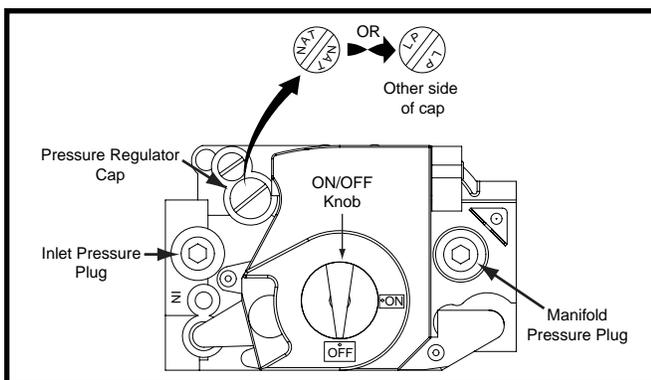

Figure 36. Gas Valve - Top View
This furnace can be converted from factory-equipped natural gas to Liquid Propane gas. Conversion of this valve requires replacement of the burner orifices on the manifold assembly and flipping the regulator cap to the side marked LP. See Figure 36 below. The orifices required for conversion are supplied with the furnace.
- To prevent cross threading, screw the orifices (7) into the gas manifold assembly (5) by hand until snug, then tighten with a wrench.
12. Install the appropriate LP/Propane orifices (7) into the gas manifold assembly (5).
13. Remove the pressure regulator cap (Figure 36) from the gas valve.
1. Remove the inlet pressure plug (Figure 36, page 28) from the INLET side of the gas valve with a 3/16 Allen wrench.
1. Remove the manifold pressure plug (Figure 36, page 28) from the outlet side of the gas valve with a 3/16 Allen wrench.
6. If the manifold pressure is not set to the pressure specified in Table 13, remove the pressure regulator cap (Figure 36) from the gas valve. Slowly turn the adjusting screw underneath the cap with a small screwdriver until the appropriate manifold pressure is obtained.
7. After the manifold pressure is properly set, replace the cap so that the letters facing up represent the type of gas being used for the furnace. See Figure 36.
4. Turn the gas valve ON/OFF knob (Figure 36) to the ON position.